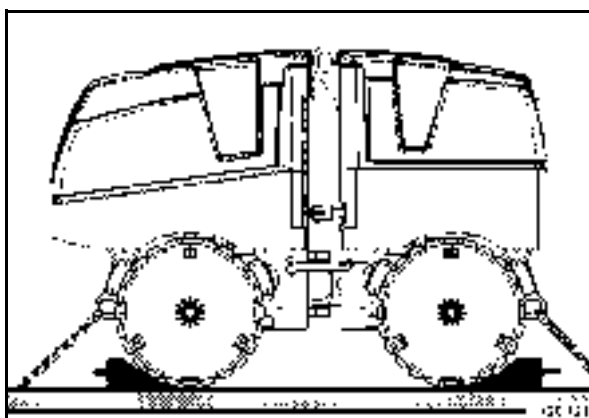

Fig. 91
- Drive the machine onto the transport vehicle and lash it down by the two lashing eyes (Fig. 91).